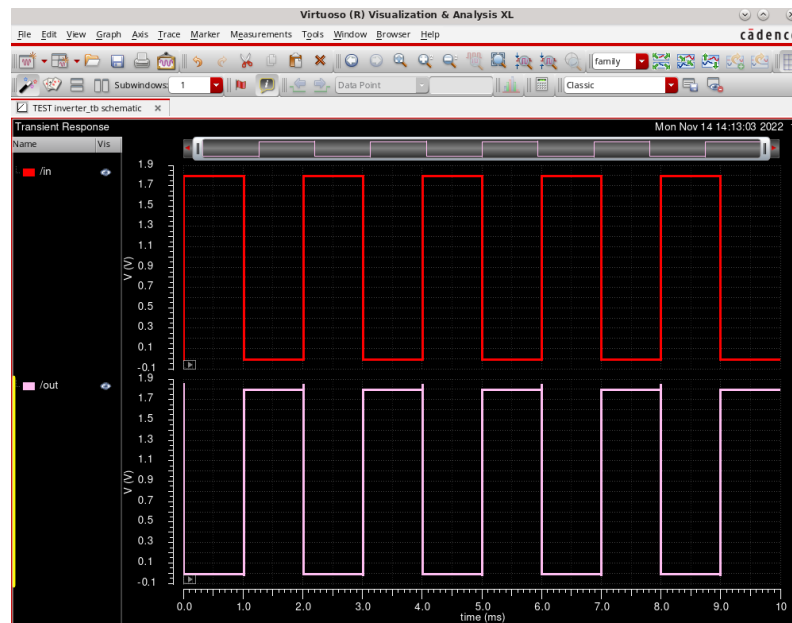

Figure 13: Simulation window
- Finally, click green "run" button, and Fig. 13 will pop out. You can observe your outputs in Fig. 13.